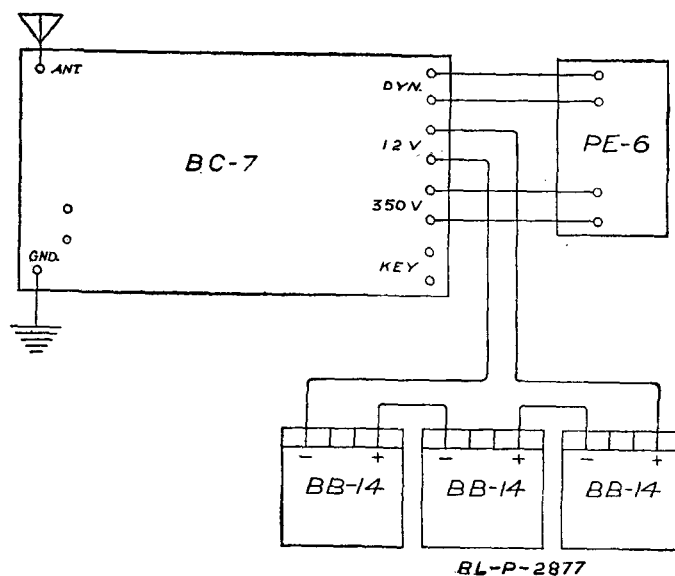

Fig. 90.—Cording diagram of transmitter connections in the SCR-130 set.
4. *To connect up the set as a transmitter.*—Erect the set box on its legs. The set box should be so placed that the antenna and ground leads will easily reach the proper binding posts on the panel. (See Fig. 90.) Place the dynamotor and storage batteries under the set.